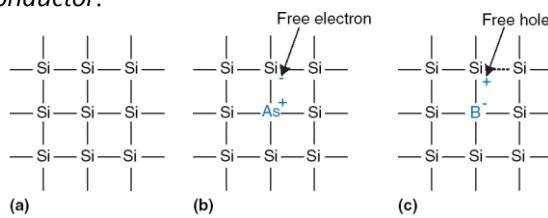

Figure 1.20 Silicon lattice and dopant atoms
MOS transistors are built from silicon, the predominant atom in rock and sand. Silicon (Si) is a group IV atom, so it has four electrons in its valence shell and forms bonds with four adjacent atoms, resulting in a crystalline lattice. *Figure 1.20(a)* shows the lattice in two dimensions for ease of drawing, but remember that **the lattice actually forms a cubic crystal**. In the figure, a line represents a covalent bond. By itself, silicon is a poor conductor because all the electrons are tied up in covalent bonds. However, **it becomes a better conductor when small amounts of impurities**, called **dopant atoms**, are carefully added. If a **group V dopant such as arsenic (As)** is added, the dopant atoms have an extra electron that is not involved in the bonds. The electron can easily move about the lattice, leaving an ionized dopant atom (As^+) behind, as shown in *Figure 1.20(b)*. The electron carries a negative charge, so we call arsenic an *n-type* dopant. On the other hand, if a **group III dopant such as boron (B)** is added, the dopant atoms are missing an electron, as shown in *Figure 1.20(c)*. This missing electron is called a *hole*. An electron from a neighboring silicon atom may move over to fill the missing bond, forming an ionized dopant atom (B^-) and leaving a hole at the neighboring silicon atom. In a similar fashion, the hole can migrate around the lattice. The hole is a lack of negative charge, so it acts like a positively charged particle. Hence, we call boron a *p-type dopant*. Because the conductivity of silicon changes over many orders of magnitude depending on the concentration of dopants, silicon is called a *semiconductor*.